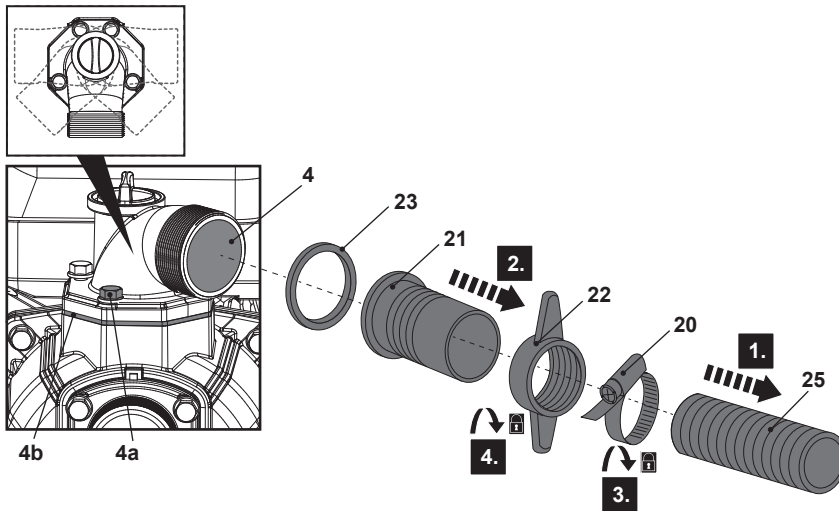

Fig. 1
- Attach the clamp (20) on the discharge hose (25) (not provided). Do not fix the clamp at this step (Fig. 1, step 1).
- Attach the connector (21) on the connector wrench (22) (step 2).
- Attach the seal ring (23) on the connector. Align the connector wrench to the outlet (4). Turn the connector wrench clockwise to secure the discharge hose to the outlet (step 4).